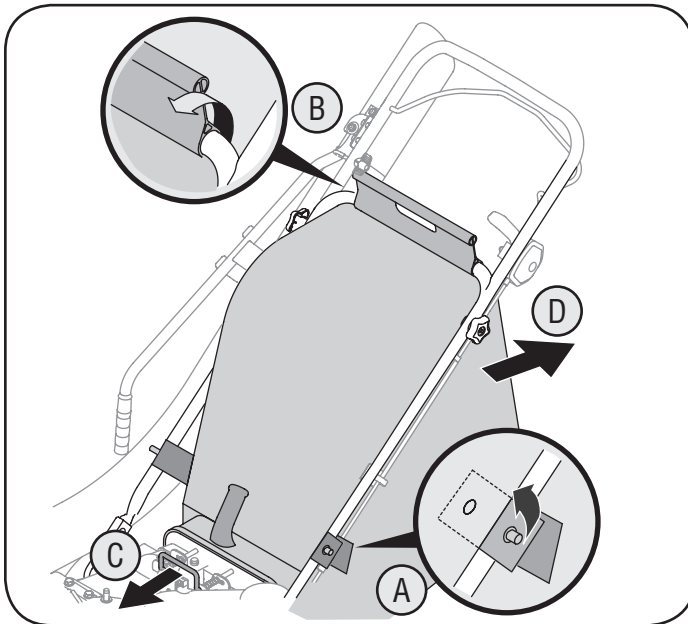

Figure 11
b. Unsnap bag clip from the top of lower handle. See Figure 11.